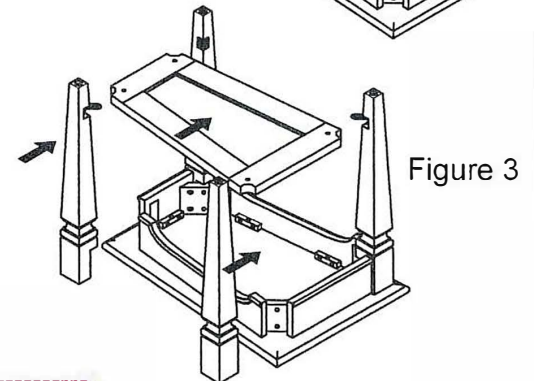

Figure 3
3. Attach two legs and bottom shelf on the table of step 2. (See Figure 3).